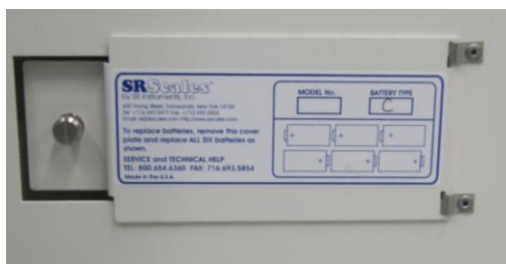

Figure 3: Battery Compartment Cover
STEP 8: (Figure 3) Open the Battery Compartment cover and install the six (6) supplied "C" cell batteries as indicated on the cover diagram. Close the cover and tighten thumb screw.